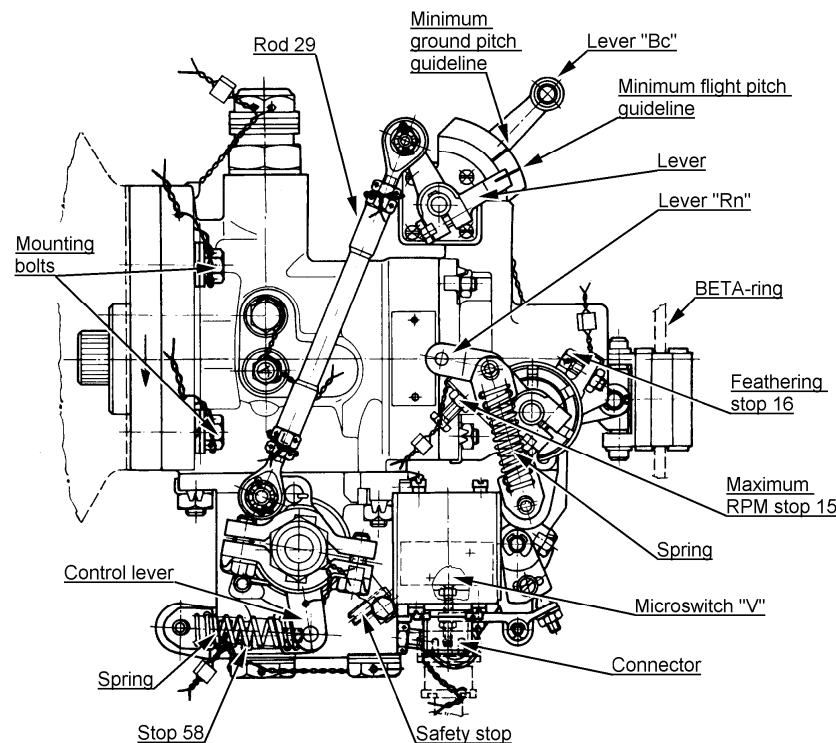
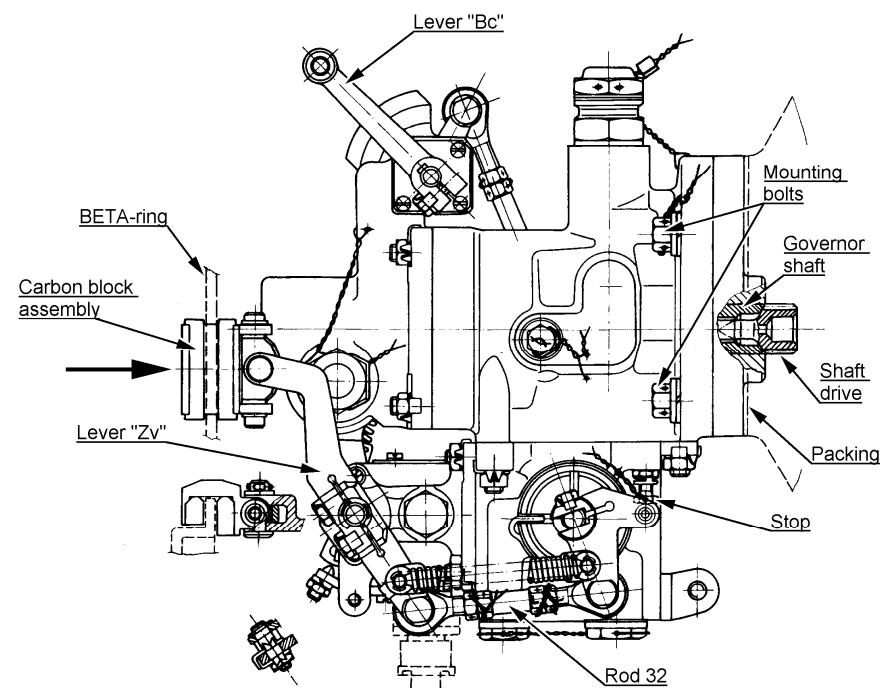

Figure 11-9 Governor LUN7815.03 View to engine
Figure 11-10 Governor LUN7815.03 View from engine
(1) Verify governor condition for damage. No damage acceptable.
(2) Verify installation of spring on the lever "Rn" (figure 11-9).
(3) Verify locking devices of appropriate elements (figures 11-9, 11-10, 11-11).
(4) Verify seals and securing (figures 11-9, 11-10).
BE CAREFUL AT SECURING ELEMENT **32** (FIGURES 11-10 AND 11-11, LOCKING WIRE AND COTTER PIN). LEFT THREAD IS MARKED WITH "L". THE STOP – FIGURE 11-10 – MUST HAVE THE SAFETY WIRE ACROSS THE HEXAGON HEAD OF THE BOLT. STOP MUST NOT BE RELEASED AND RE-ADJUSTED, IT IS ADJUSTED BY GOVERNOR MANUFACTURER.
(5) With "Bc" lever (figure 11-9) in basic position (guideline on the lever with cam aligns with minimum flight pitch guideline on the governor scale and the control lever pin touches the stop **58**), verify "Rn" lever travel between stops **15** and **16**.
(6) With lever "Rn" at maximum RPM stop **15**, verify lever "Bc" travel from basic position up to reverse, when the guideline on the lever with cam is against reverse range on the governor scale. Then move the lever "Bc" further to safety stop.
(8) Grease carbon block assembly pins with Aeroshell Grease 5, 6 or 22.
(9) Verify function of the microswitch "V" (figure 11-9) by moving lever "Zv" in the direction of arrow (figure 11-10).
(10) Grease bearings of elements 29, 32, and other appropriate surfaces with Aeroshell Grease 5, 6 or 22.
- (11) Verify governor flange and gear box flange. Both surfaces must be clean and free from any damage. Use a clean cloth eventually with cleaning solvent to wipe seating faces.
- (12) Insert drive rod into the governor shaft with square inward (figure 11-10). Try to turn with drive rod. The rod should rotate freely.
- (18) Connect rod from RPM control system to the lever "Rn" (figure 11-9) and secure.
- (19) Connect the control rod from engine to the lever "Bc" in its basic position and secure.
- (20) Connect plug to the beta switch and secure.
- (21) Adjust the governor according to procedure in this section.